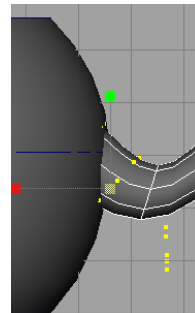

*Figure 3-74 The spout placed on the teapot*
- Choose the **Four View** button from the Tool Box to switch to four views. Move the cursor to the persp viewport and then press the SPACEBAR key to maximize the persp viewport. Place the spout on the body of the teapot using **Move Tool**, if required, as shown in Figure 3-74.